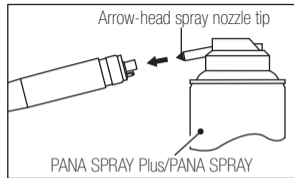

Fig. 9
- 2) Mount the arrow-head spray nozzle tip into the spray can port. (Fig.9)